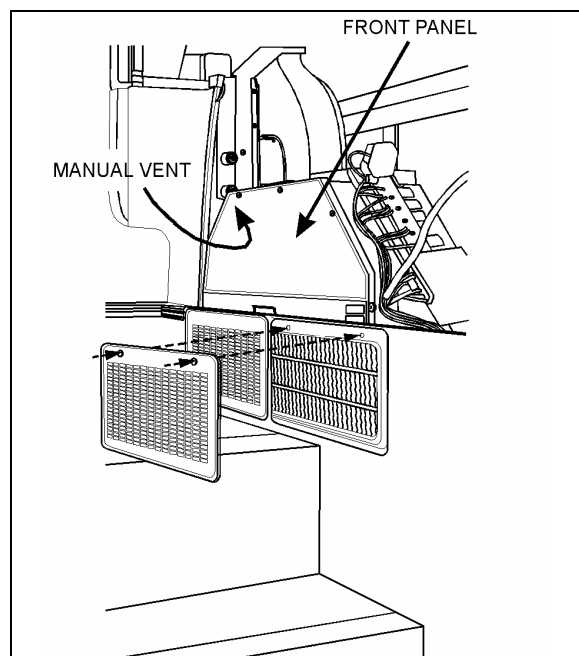

FIGURE 41: DRIVER'S HVAC UNIT
- d) From inside of vehicle, remove the two finishing panels in front of unit. Remove the three screws fixing the unit front panel. Open the manual vent located inside the HVAC unit, on the driver's side (Fig. 41) to ensure an efficient draining.
Whenever the heating system has been drained and refilled, or the system has run low on coolant and coolant has been added, it is necessary to bleed air from heating system. Locate the manual vent illustrated in Figure 41 and open momentarily until no air escapes from the line.